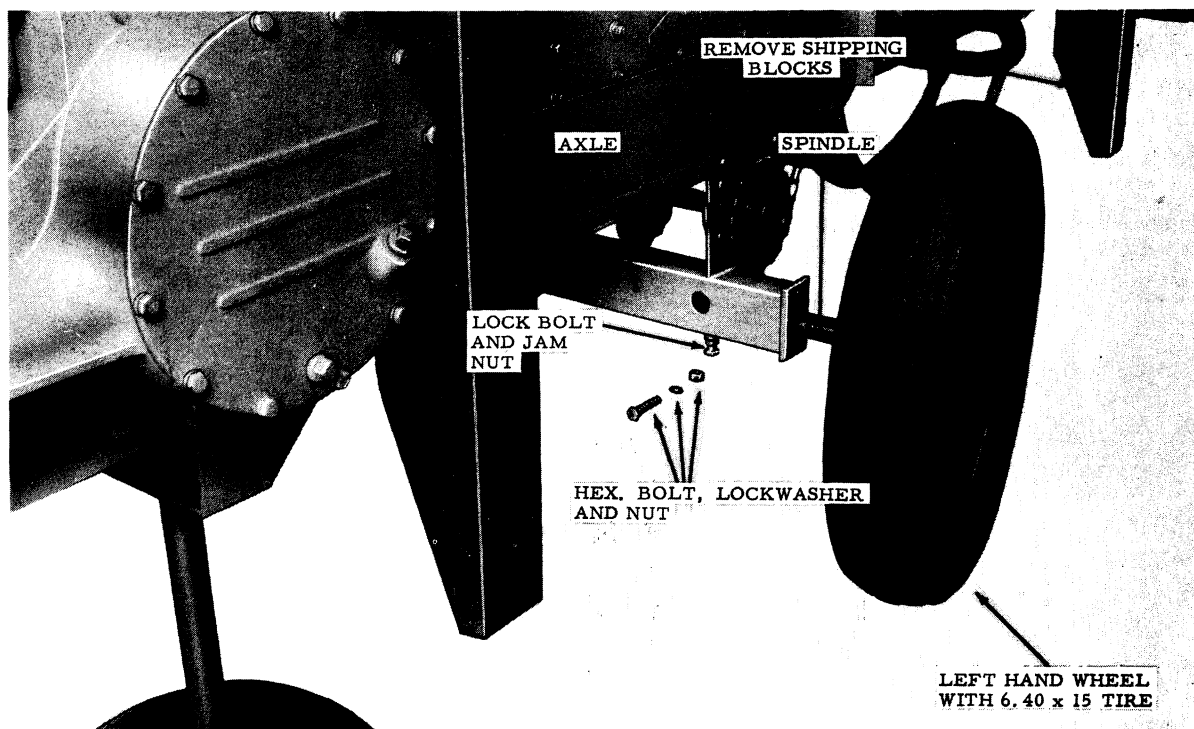

Figure 5. Left Wheel Installation
2. Loosen the lock bolt and jam nut in the axle housing. See Figure 5.
3. Slide the spindle into the axle. Align the hole in the axle block. See Figure 5.
7. Remove the two shipping blocks from the side of the bale case. See Figure 5.